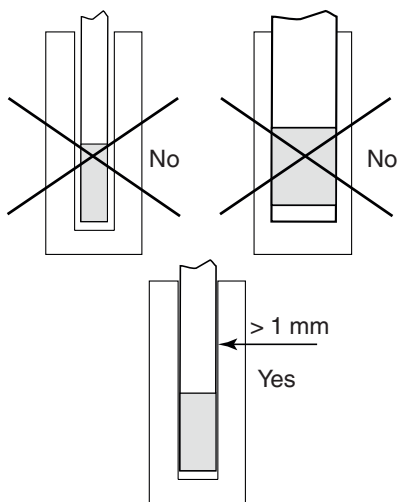

Fig. 1
- The diameter of the hole in the calibration block is at least 1 mm bigger than the diameter of the probe (see Fig. 1).